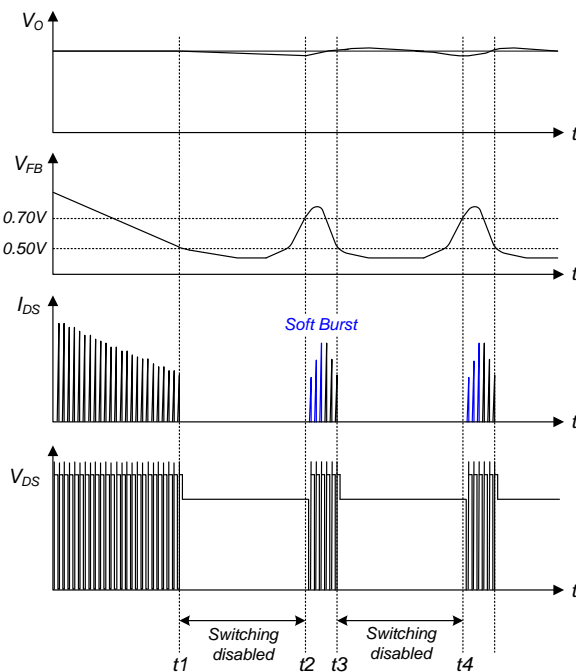

Figure 23. Burst-Mode Operation
**5. Soft Burst-Mode Operation:** To minimize power dissipation in standby mode, the FSGM0465R enters burst-mode operation. As the load decreases, the feedback voltage decreases. As shown in Figure 23, the device automatically enters burst mode when the feedback voltage drops below  $V_{BURL}$  (500mV). At this point, switching stops and the output voltages start to drop at a rate dependent on standby current load. This causes the feedback voltage to rise. Once it passes  $V_{BURH}$  (700mV), switching resumes. At this point, the drain current peak increases gradually. This soft burst-mode can reduce audible noise during burst-mode operation. The feedback voltage then falls and the process repeats. Burst-mode operation alternately enables and disables switching of the SenseFET, thereby reducing switching loss in standby mode.